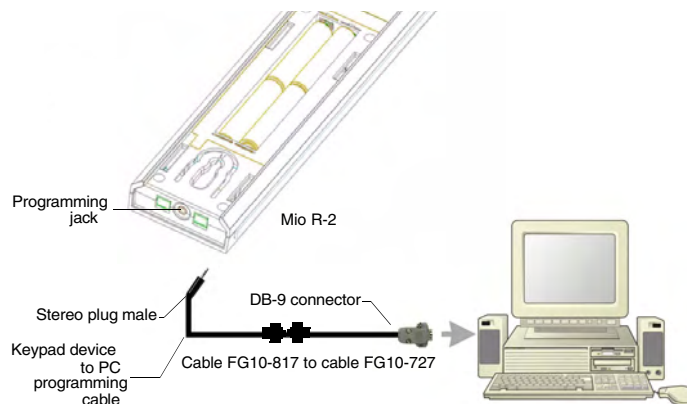

FIG. 3 Connecting The Keypad Device to Your PC
1. Connect the Mio R-2 to your computer via the programming jack (FIG. 3).